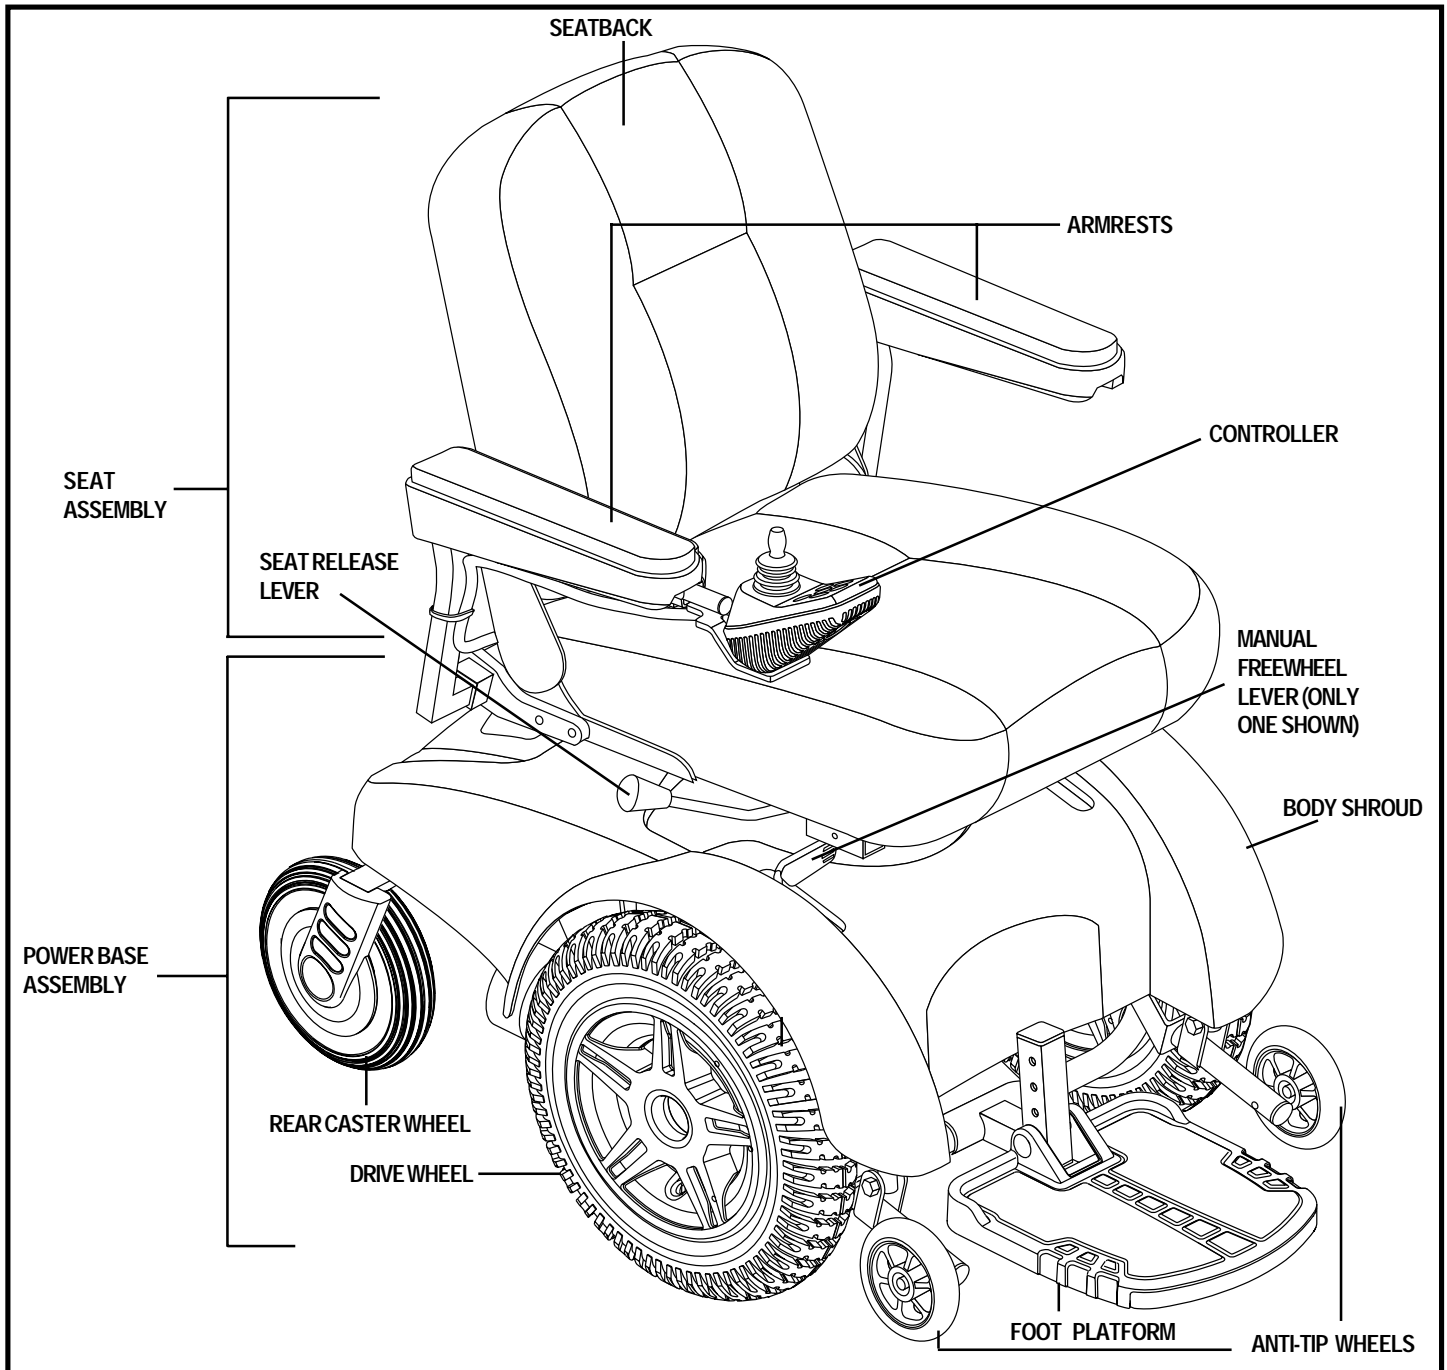

Figure 5. The Jazzy Select 14
Your power chair has two main assemblies: the seat and the power base. See figure 5. Typically, the seating system includes the armrests, the seatback, the seat base, and the joystick/controller. The power base assembly includes two drive wheels, two anti-tip wheels, two rear caster wheels, a body shroud, four frame assemblies (located under the body shroud), two battery boxes, and the electrical connectors. See figures 5 and 6.
4. Disengage the seat release lever. See figure 5.